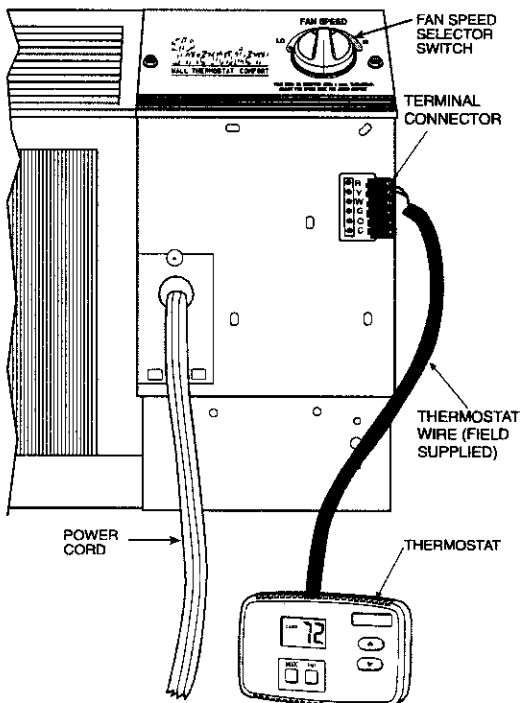

FIGURE 14 — CONTROL BOX TERMINAL CONNECTOR FOR WALL THERMOSTAT MODELS
■ **THERMOSTAT WIRE ROUTING** — Thermostat wire is field supplied. Recommended wire gage is 18 to 20 gage solid thermostat wire. Thermostat wire should always be routed around or under, NEVER through, the wall sleeve. The wire should then be routed behind the front panel to the easily accessible terminal connector. See Figures 14 and 15.